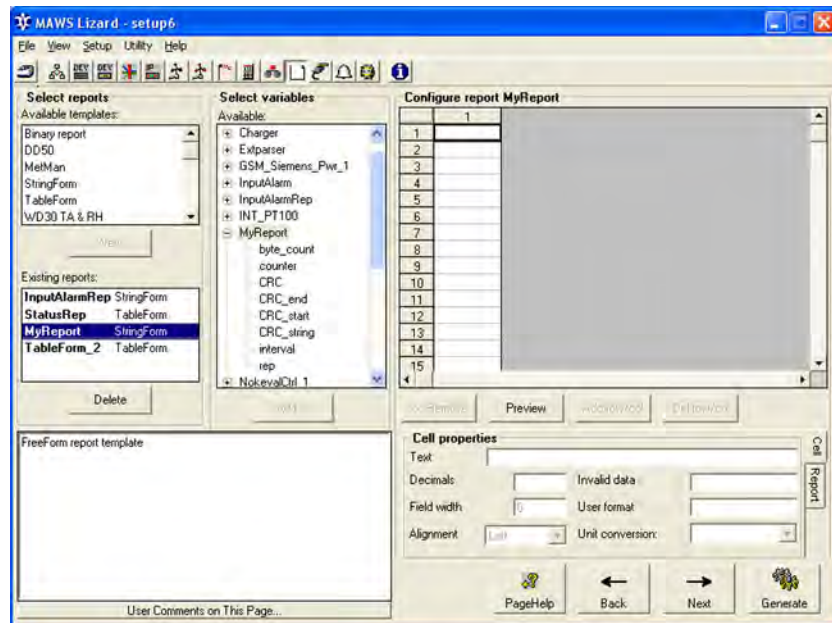

Figure 105 Reports View: Configuring New Checksum Report
1. In the **Reports** view, open the available variables in the **Select Variables** frame. The configurable checksum report in this example is MyReport; see Figure 105 on page 204.